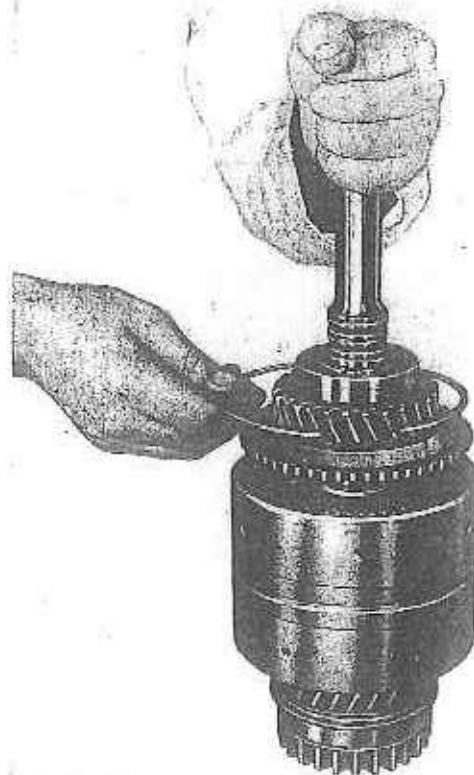

FIG. 28
19. (Fig. 28) Fit the input shaft and clutch cover over the output shaft and into the drum.